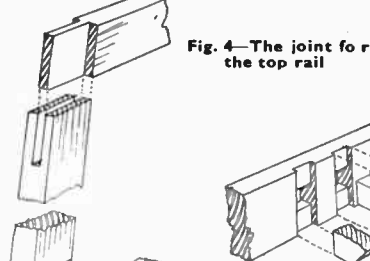

Fig. 4—The joint for the top rail
There is a little more work in these, such as the open slotting or open halving joints to the top rails, and the half-cut through recesses for the lower rails. The general arrangement of the legs and rails is shown in Fig. 3, where (D) is the legs 27ins. long, $1\frac{1}{2}$ ins. wide and $\frac{3}{4}$ in. thick, (E) the top rails 18ins. long, $1\frac{1}{2}$ ins. wide and $\frac{1}{2}$ in. thick, and (F) the lower rails 21 $\frac{1}{2}$ ins. long, 3ins. wide and $\frac{1}{2}$ in. thick. The jointing together of these parts is shown in Figs. 4 and 5, the former